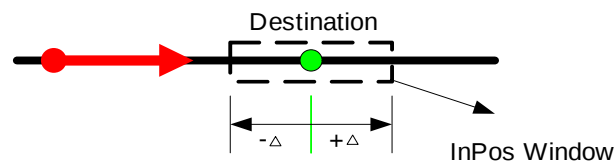

Fig. 3-7
- InPos Window : Set the range of InPos checking window. The size of the InPos window is the double size of the setting value. (Fig. 3-7)